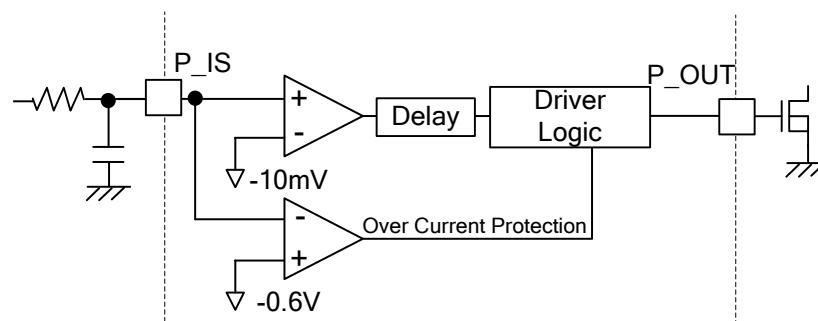
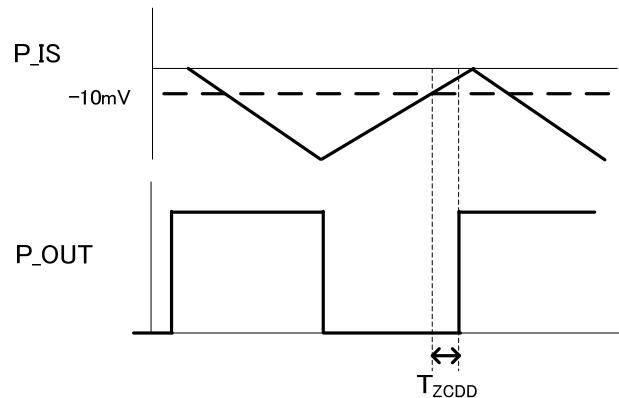
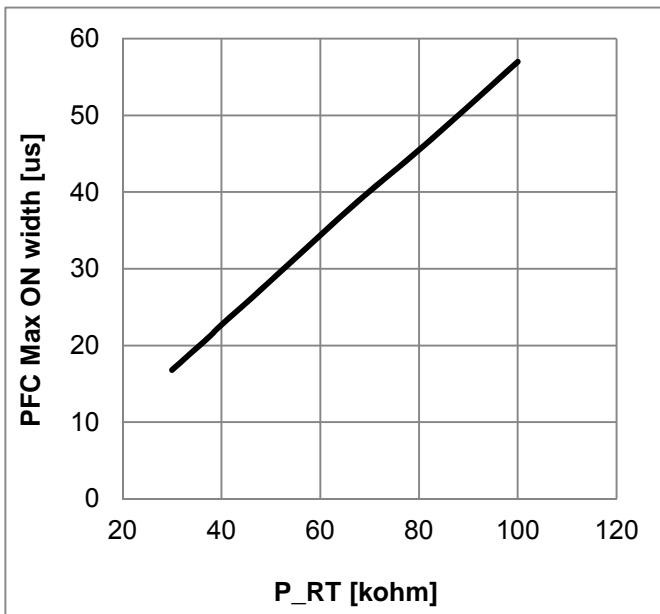

Figure 31. Current Detection Circuit of P_IS Terminal
Figure 32. P_IS Zero Current Detection Delay Time
Figure 33. The Relationship of RT and Operation Frequency*
Zero current detection circuit is the function that detects zero cross of PFC inductor current (IL). (Shown in Figure32) The voltage of P_IS pin becomes more than the voltage of zero current detection and P_OUT output turn ON after it is passes for Delay time.
The maximum ON width which set in Figure 31 needs to set more than TMAXON width which shows above. In order to improve the efficiency in a light load, the frequency rising in a light load is limited to set value at P_RT pin, by the maximum frequency of Figure 32. Furthermore, Delay time from the comparator for zero cross detection V_{ZCD} (typ=-10mV) can be set in P_RT pin. (Refer to Figure 33) The IC can't operate in more 500kHz than maximum frequency because it has a peculiar delay time, external MOSFET delay and delay time of drive circuit even if P_RT resistor is attached less than $39k\Omega$..